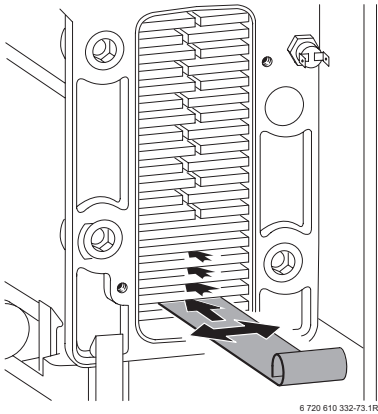

Fig. 47
- Loosen any deposits in the heat exchanger from top to bottom using the cleaning blade. Refer to fig. 47.